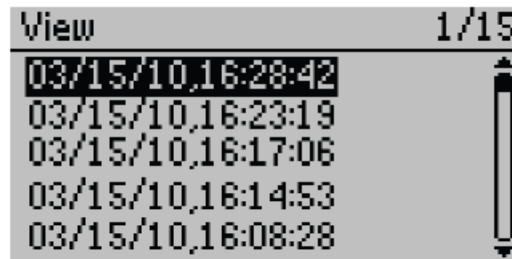

Figure 13 View data summary screen
3. Scroll through the list of saved tests using UP and DOWN (Figure 13).